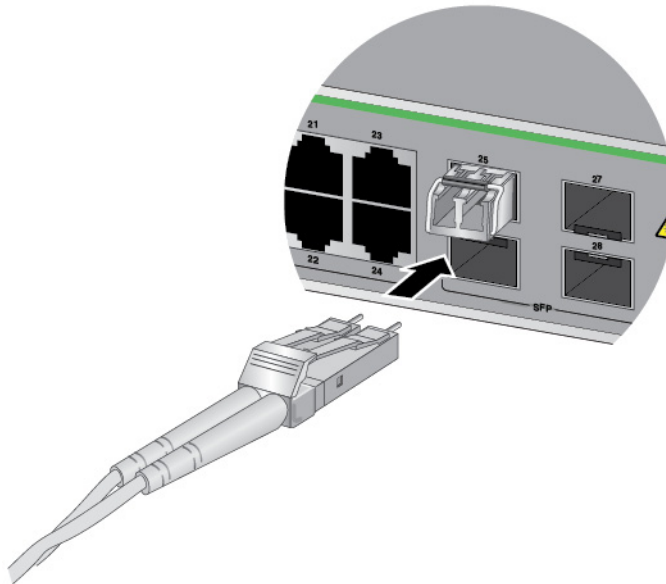

Figure 43. Connecting a Fiber Optic Cable to an SFP Transceiver
6. Connect the fiber optic cable to the transceiver, as shown in Figure 43. The connector on the cable should fit snugly into the port, and the tab should lock the connector into place.